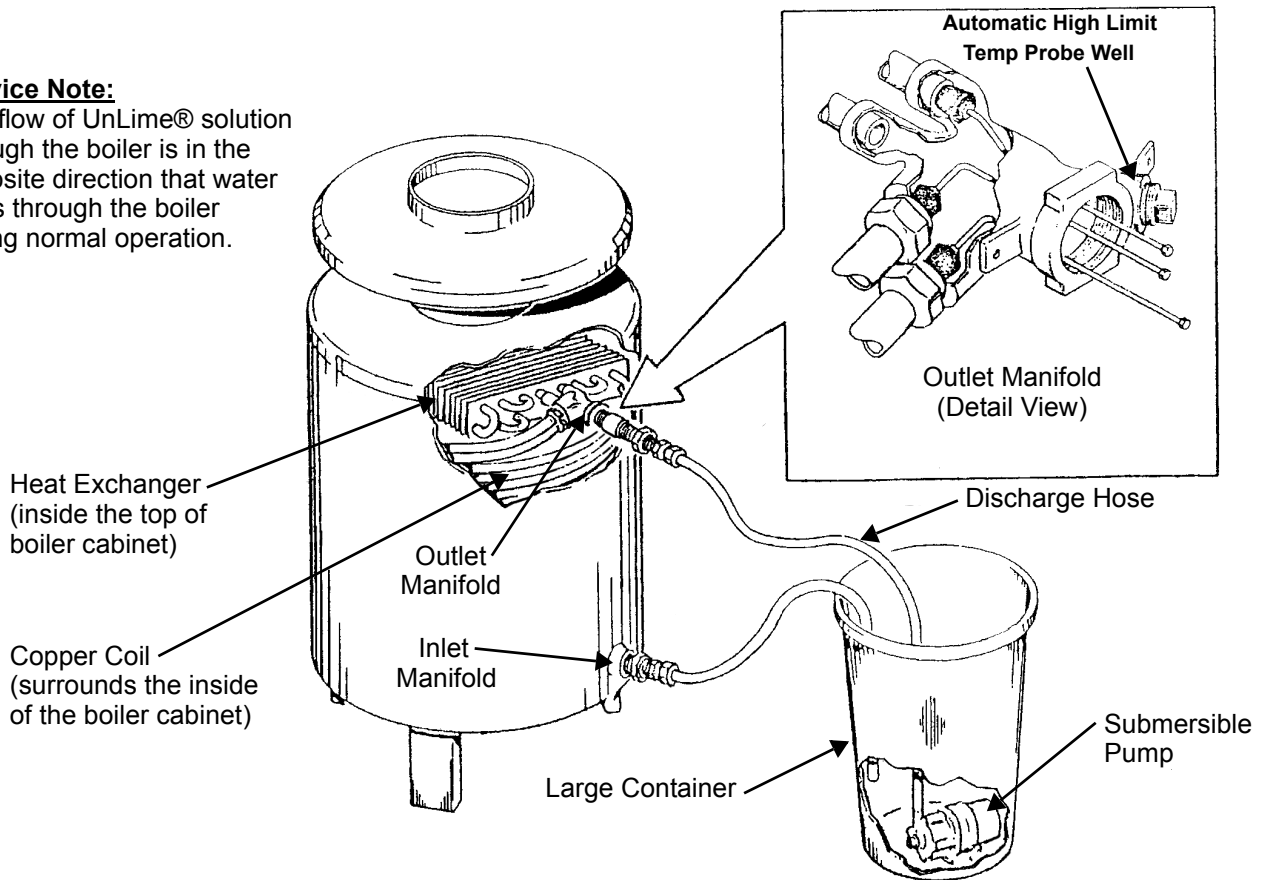

Figure 2
- 7 Remove the automatic high limit temperature control's temperature sensing bulb from the temp probe well in the outlet manifold and plug the threaded opening with a plastic pipe plug - see Figure 2.
- 8 Use field supplied couplings and pipe nipples and the materials and fittings listed in Table 4 on page 6 prepare the inlet manifold on the boiler to connect the plastic hose that will return the UnLime® solution to the large container - see Figure 2.
- 2 Using field supplied threaded couplings and nipples and the appropriate size bushings and hose adapter (see Table 4 on page 6) prepare the outlet manifold on the boiler to connect the chemical feed discharge hose that will supply the UnLime® solution to the boiler - see Figure 2 on page 9, Figure 4 and Figure 5.
- 4 Ensure one end of the plastic return hose is connected to the inlet manifold on the boiler and the other end is inside the large plastic container as shown in Figure 2 on page 9. Secure the end of the hose in the large container so it will not pop out of the container when the pump is started.
- 2 Replace the automatic high limit temperature control's temperature sensing bulb removed in the preparation Steps on page 9 - see Figure 2 on page 9.